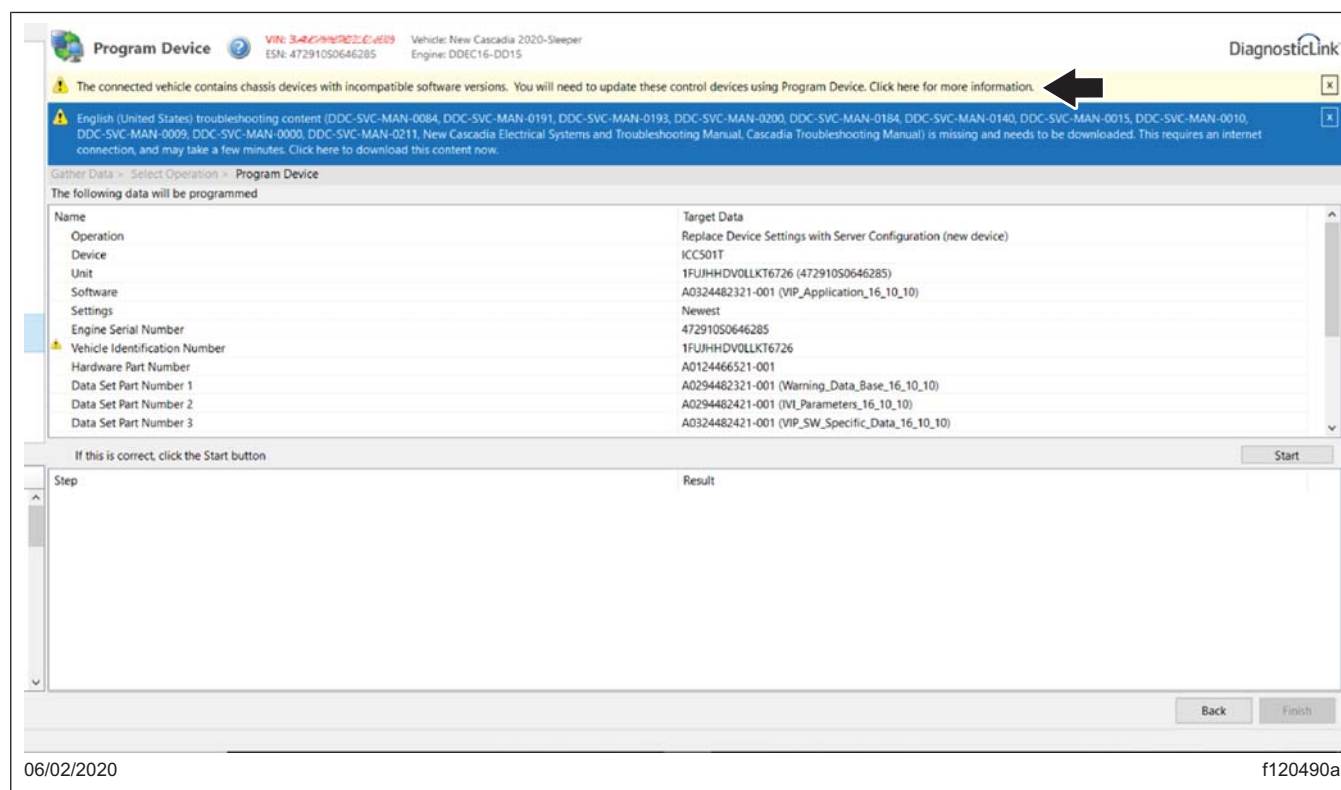

Fig. 21, Clicking on the Banner Message
13. Click on the banner message. See Fig. 21.